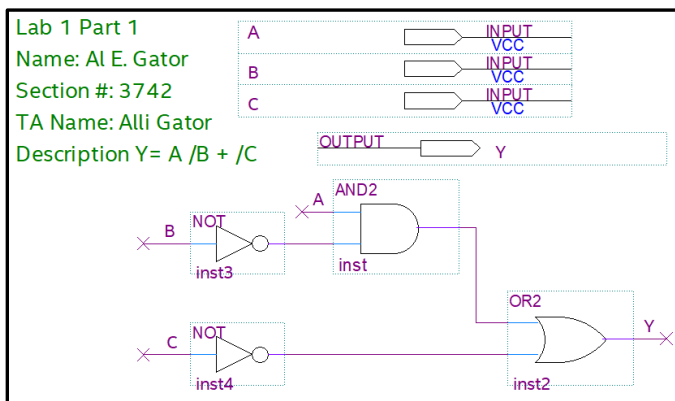

Figure 4: Bdf with inputs and outputs
1. In the same manner that you placed a gate onto the bdf, add three input pins from the “Symbol” libraries. Input pins can be found under “primitives | pin | inputs” (or just type **input** just as you typed **not** previously in the “Name:” box). I suggest placing these inputs together, above your logic diagram and just to the right of your name as shown in Figure 4.
3. In the same manner and in the same library that you found the input pins, add an output pin from the “Symbol” library. I put this output pin under and to the right of the input pins. Change the pin name to ‘Y’ on the output port, as shown in Figure 4.
6. The “A” label will connect the input labeled “A” to this wire. Similar connections are made by the labels on the other inputs and output. The bdf should look similar to Figure 4.